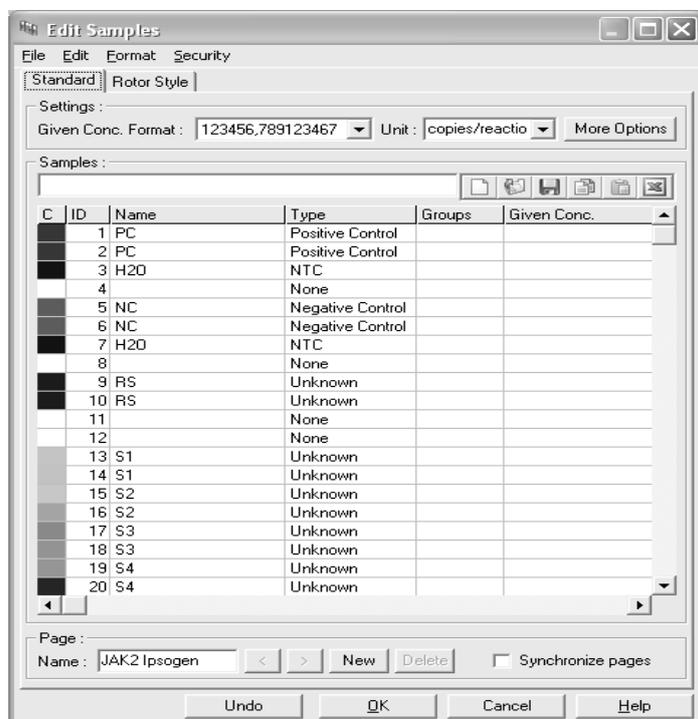

Figure 7. Rotor-Gene setup: “Edit Samples”.
16. Enter the rotor setup in the Rotor-Gene software (Figure 7).